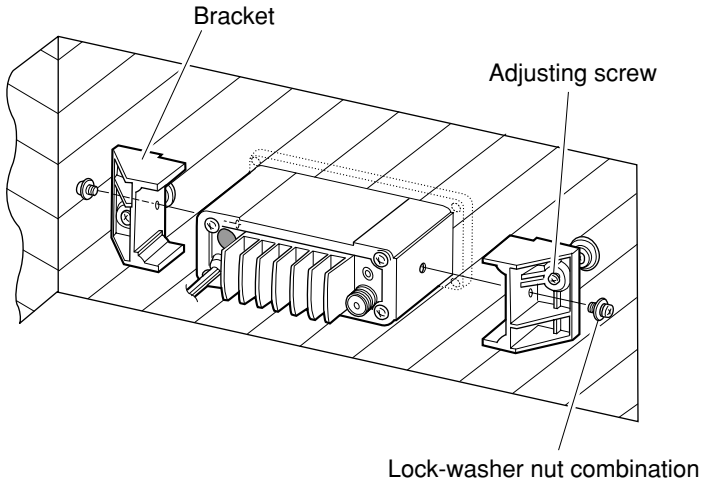

Figure 3. CMB16 Flush Mount Installation
4. Fasten the brackets to the sides of the transceiver with the lock washer nut combination, so that the mounting screw base faces the mounting surface (see Figure 3).